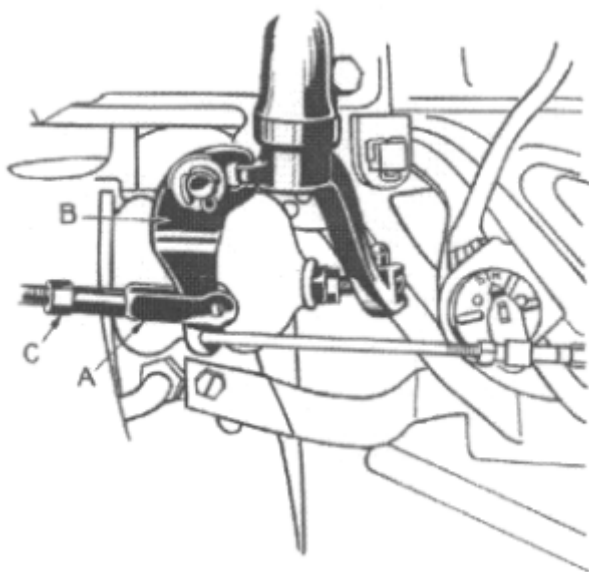

Figure 4
on the power cylinder shifting lever checked to see that there is no binding due to contact at points other than the ends of the bell-crank fork (B) (Figure 4).
With the transmission in high or second gear, remove the clevis pin from the diaphragm cylinder rod yoke (A) (Figure 4), The spring in the cylinder should hold the yoke farther forward than the position in which the clevis is pin can be inserted.